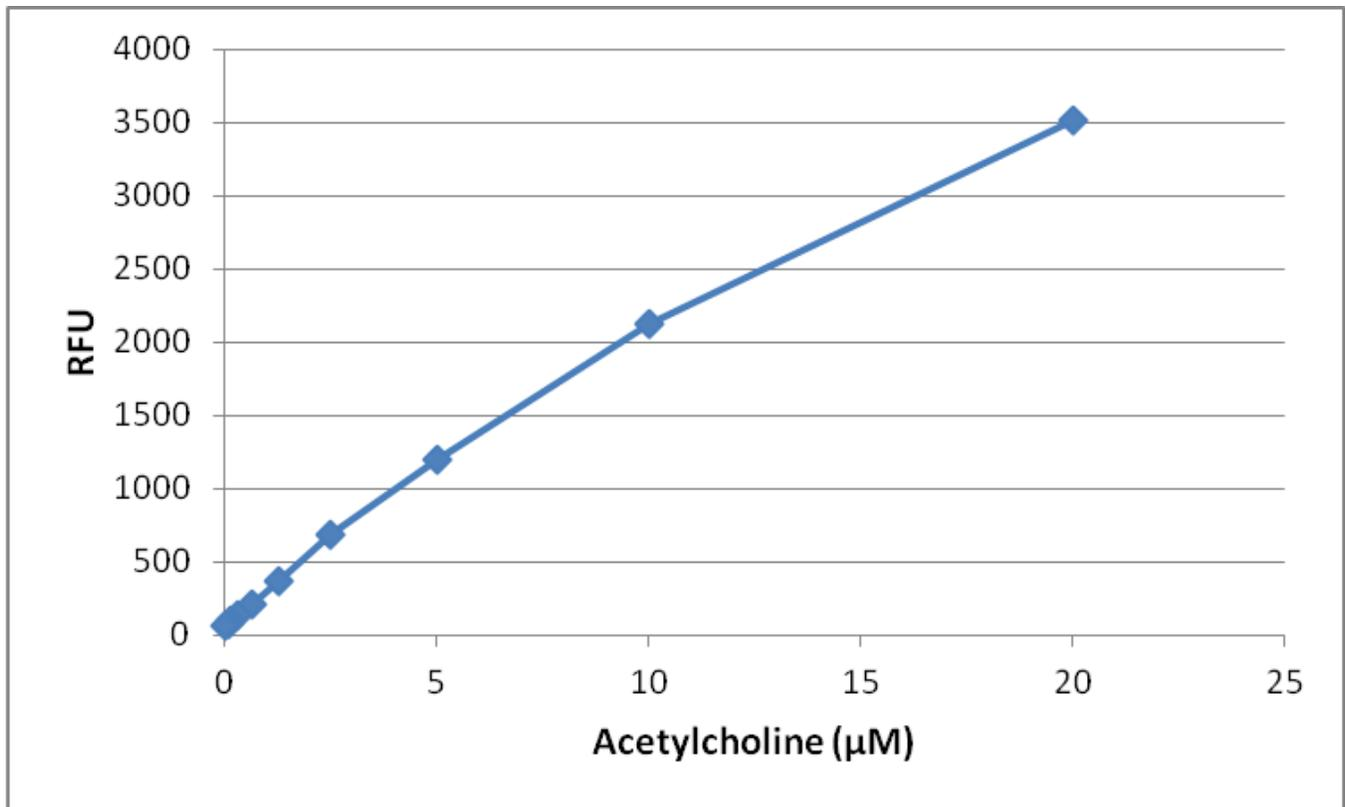

Figure 2: Acetylcholine Standard Curve.
2. Plot the corrected fluorescence for the standards against the final concentration of the acetylcholine standards from Table 1 to determine the best curve. See Figure 2 for an example standard curve.